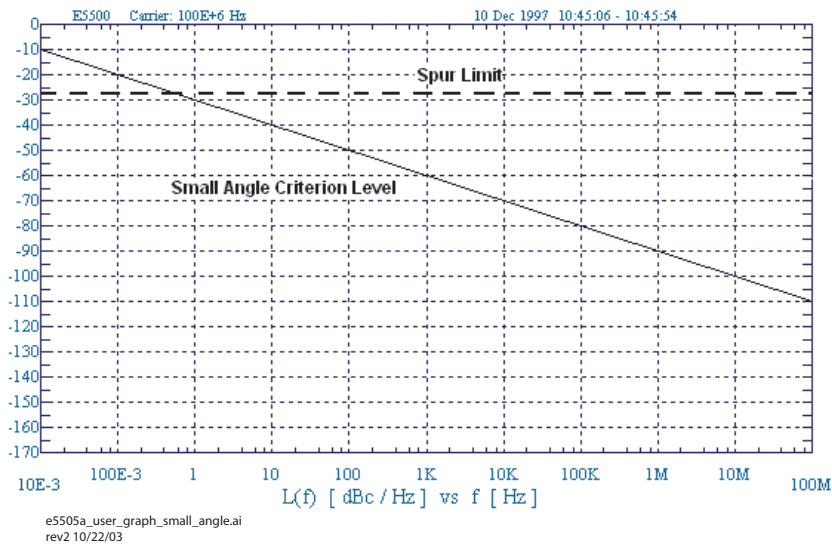

Figure 83 Graph of small angle line and spur limit
- 6 Compare the average noise level at the PLL bandwidth offset to the small angle criterion level shown on the graph in Figure 83. The average noise level of the signal must remain below the small angle line at all offset frequencies beyond the PLL bandwidth. (The small angle line applies only to the level of the average noise. Spur levels that exceed the small angle line do not degrade measurement accuracy provided they do not exceed -40 dBc.)